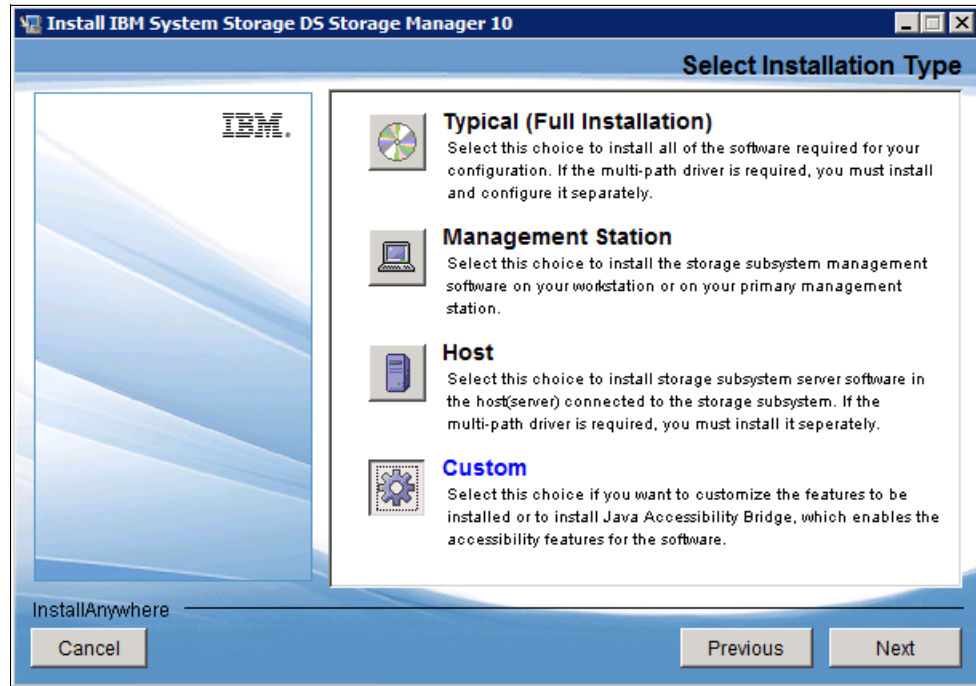
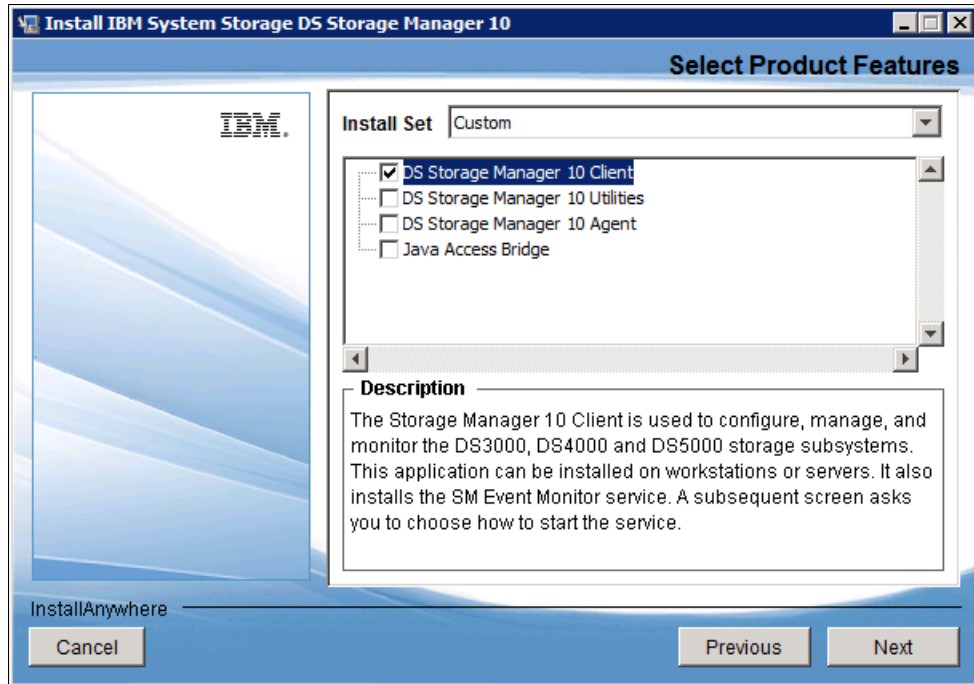

Figure 4-7 IBM DS Storage Manager Select Installation Type
Figure 4-8 Select Product Features
7. For Installation Type (Figure 4-7), select **Custom** and click **Next**. We recommend the Custom installation because you can see what components of Storage Manager will be installed in each Install Set (Typical, Management Station, or Host), and you can also modify them.
8. In Figure 4-8 on page 137, select **Install Set** from the drop-down menu. The options in the drop-down menu are same as shown in Figure 4-7. When you select an Install Set, you can see what components will be installed and modify them if you want. For a description of each component, see 1.6, "IBM System Storage DS Storage Manager" on page 14. Our example shows the client selection because the system being installed is for management purposes and the other components are not required for it.